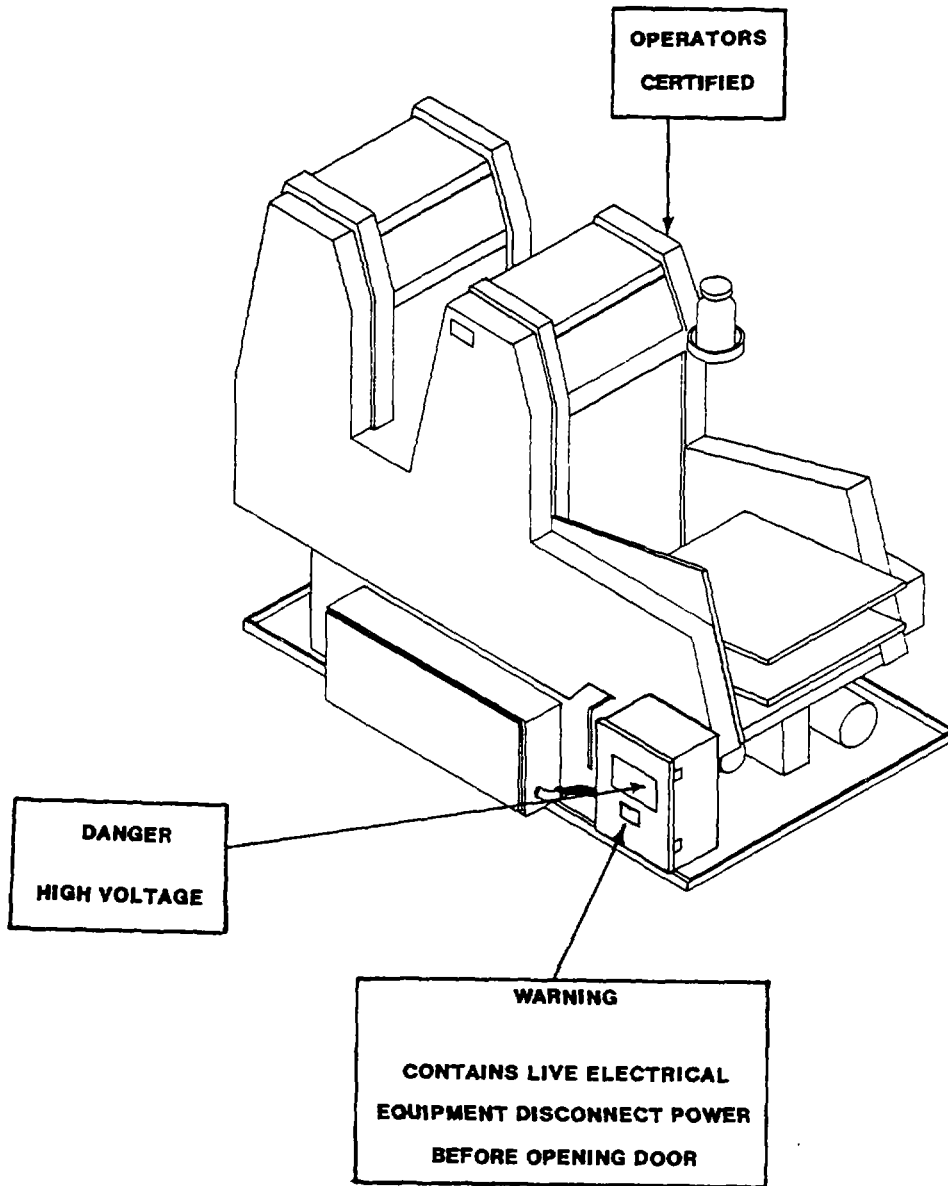

Figure 2-23. Printing Press Decal Locations
d. Printing Press. Figure 2-23 below identifies decals added to the printing press.